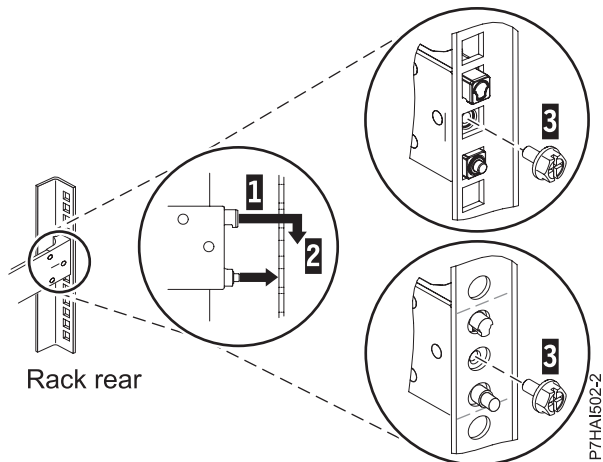

Figure 4. Aligning and engaging the pins into the holes in the rear of the rack
3. Align the two pins on the rear of the slide rail with the top and bottom holes within the selected U that were previously marked. Pull the slide rail toward you to insert the two pins into the rack holes (1), and lower the slide rail down (2) to engage the hook feature on the top pin, as shown in Figure 4. Ensure the two pins protrude through the rack holes before proceeding to the next step.